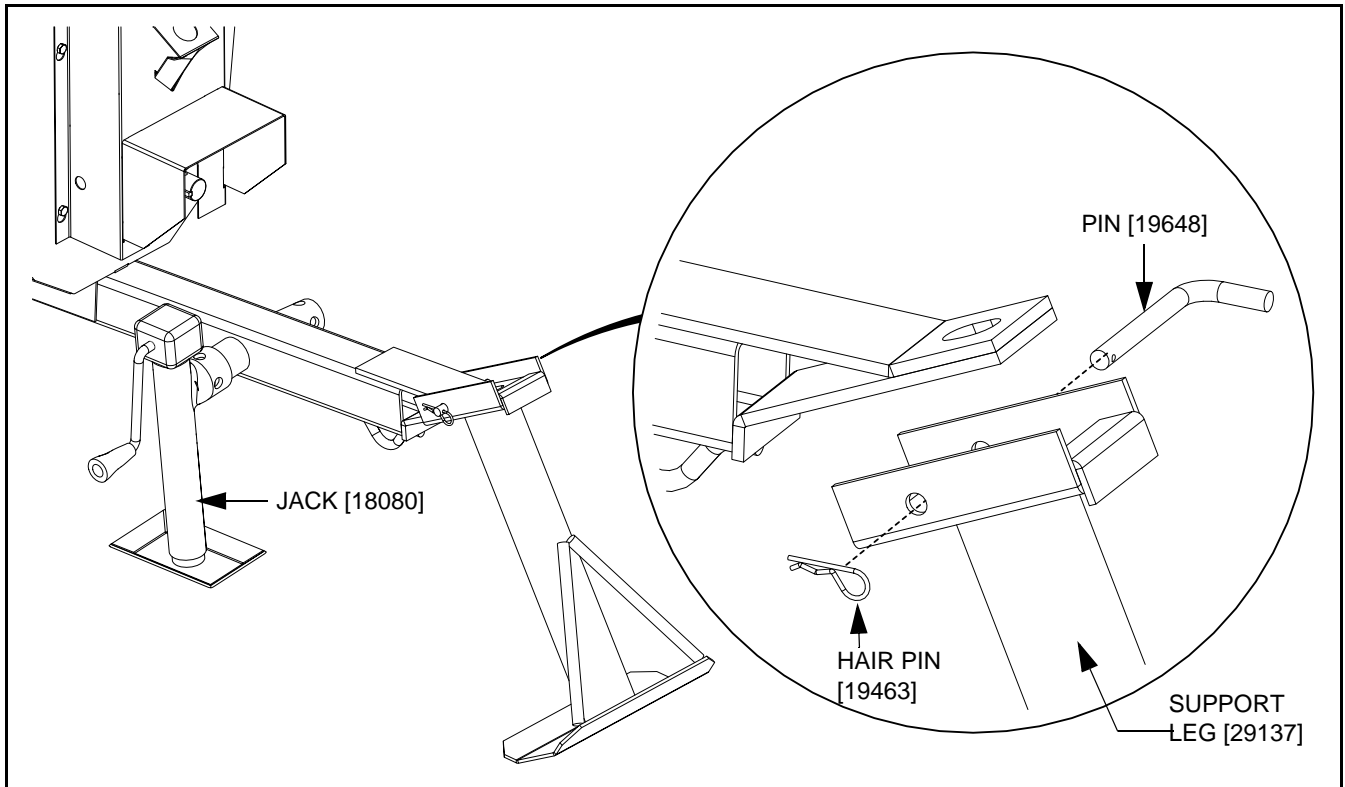

Figure 1 Installing Support Leg
5. Install support leg as shown in Figure 1.